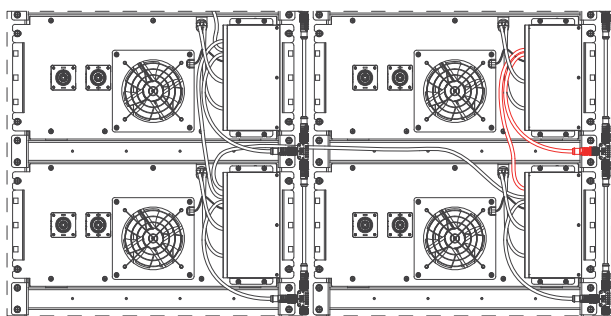

Figure 2.11
(7) The BMU communication output of the previous battery box is connected with the BMU communication input of the next battery box. The BMU box fan power input is connected to the fan power supply system. (Figure 2.11).